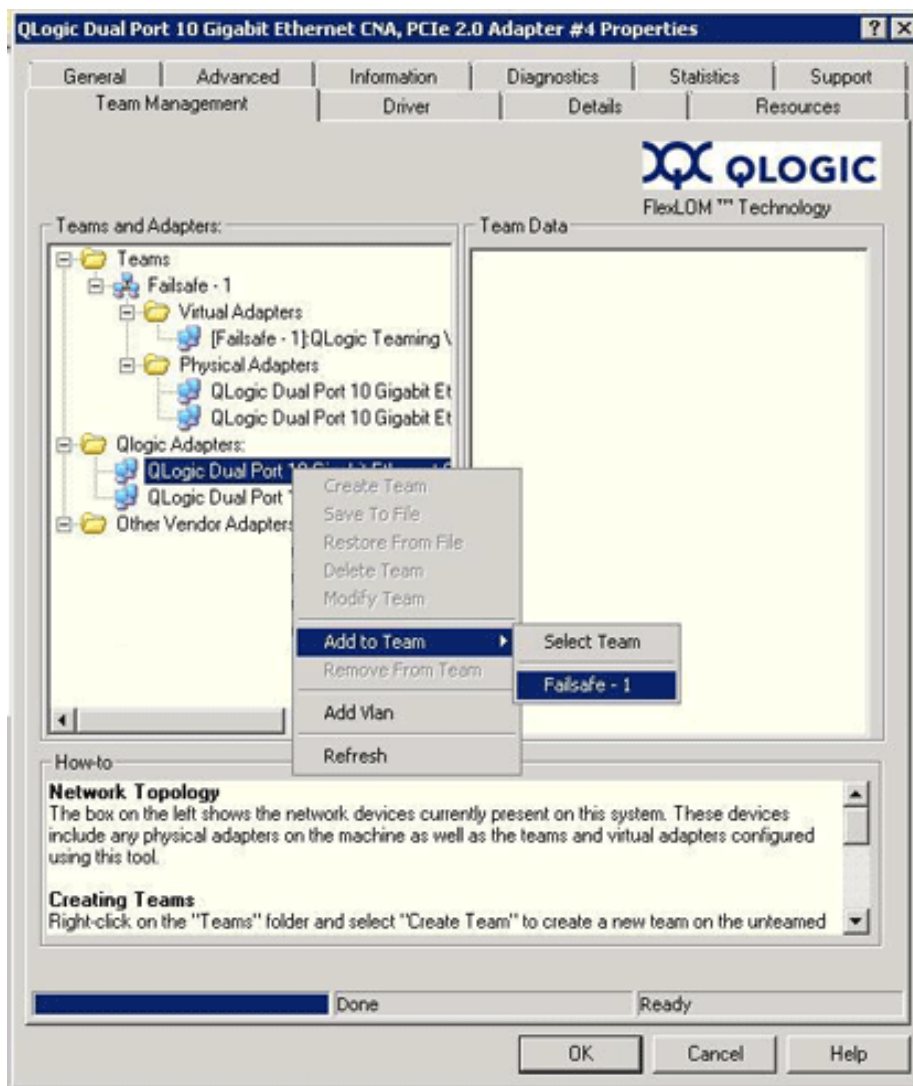

Figure 2-12. Adding a Team
2. On the shortcut menu, point to **Add to Team**, and then click the team to which you want to add the adapter (Figure 2-12).